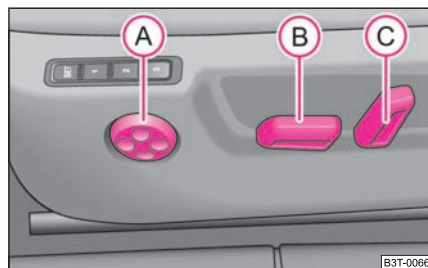

Fig. 63 Side view: Controls for adjusting the seat
- Press switch ② or ③ ⇒ fig. 63 in the direction of the desired setting.
- Press the switch ④ front ⇒ fig. 63 in order to enlarge the curvature of the lumbar support.
- Press the switch ④ rear in order to reduce the curvature of the lumbar support.
- Press the switch ④ top in order to adjust the curvature of the lumbar support higher.
- Press the switch ④ bottom in order to adjust the curvature of the lumbar support lower.